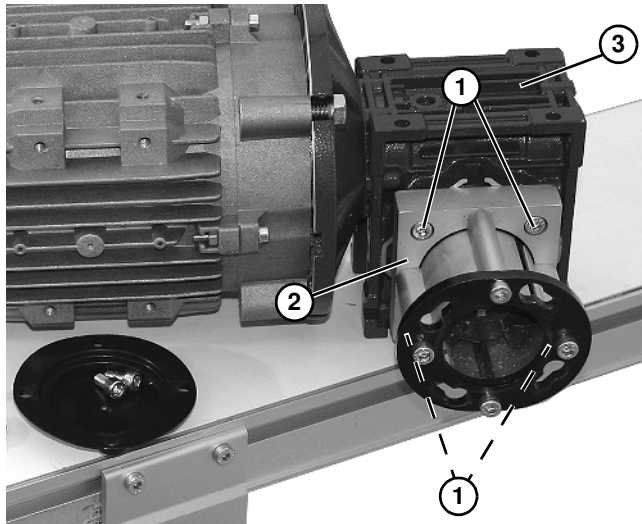

Figure 14
- Remove four socket head screws (**Figure 14, item 1**) and remove spacer plate (**Figure 14, item 2**) assembly from gearmotor (**Figure 14, item 3**).